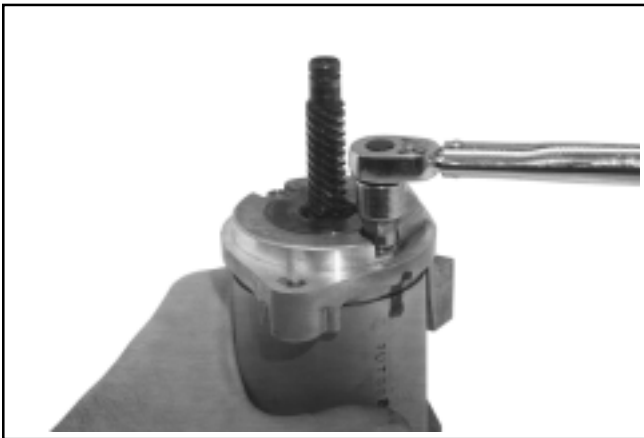

Figure 8-43. Torquing Thru Bolts.
6. Align all scribe marks and install the thru bolts with O-Rings. Torque the bolts to **5.3 N·m (48 in. lb.)**. See Figure 8-43.